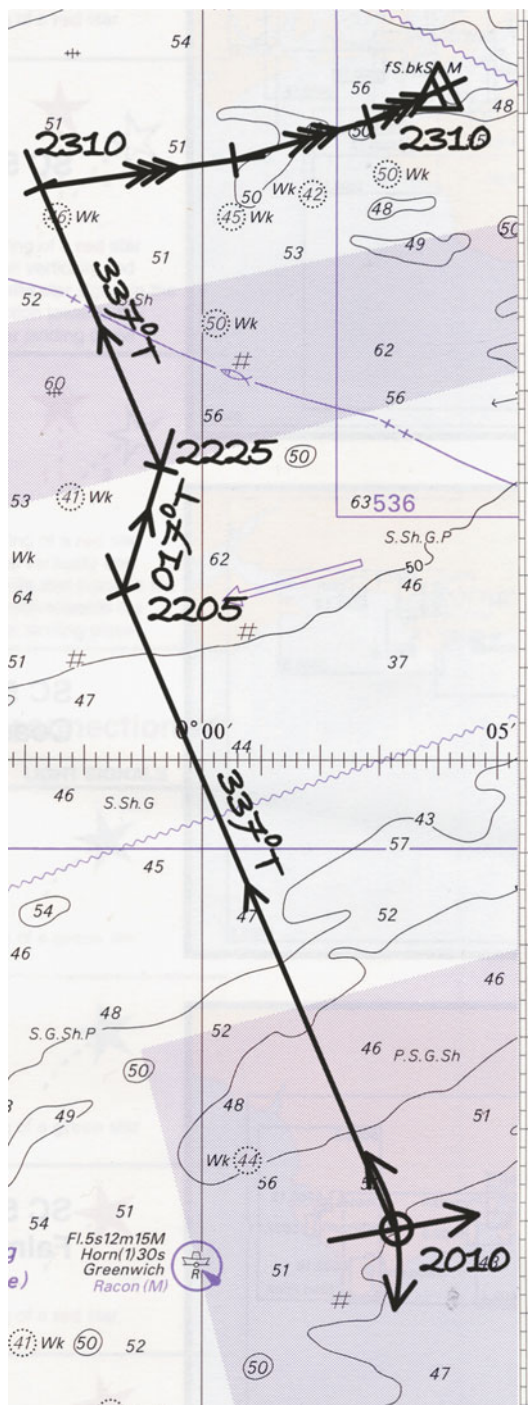

Fig 83 Chartwork - example 3.
There is no leeway to contend with, so once the fix has been plotted, finding the 2205 DR position is a matter of drawing in the course of 340° (M) = 337° (T) and measuring off the distance run: 110.7 – 103.2 = 7.5 miles (see Figure 83).